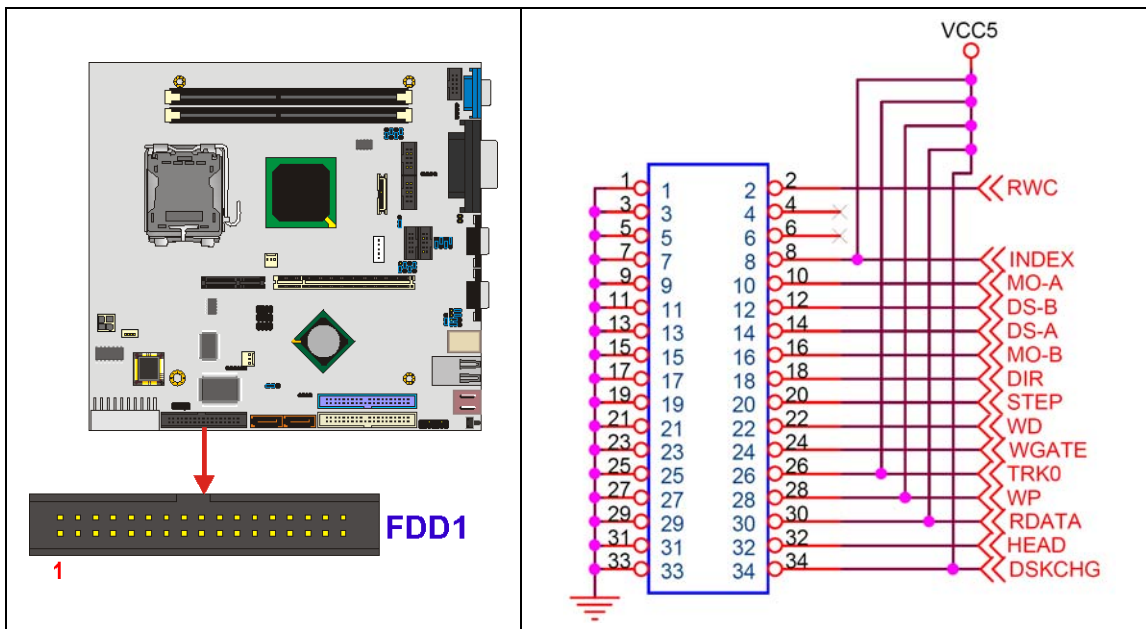

Figure 3-10: FDD Connector Location
- CN Location:** See Figure 3-10